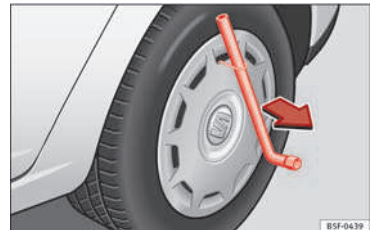

Fig. 64 Remove the wheel cover.
- Remove the wheel cover using the wire hook » **Fig. 64**.